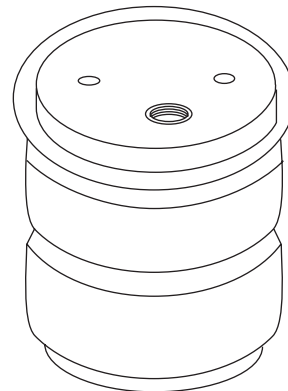

fig. 4
1. Set a roll plate (B) on both ends of the air spring (A). The radiused (rounded) edge of the roll plate will be towards the air spring, so that the air spring is “seated” in both roll plates (Fig. 4).